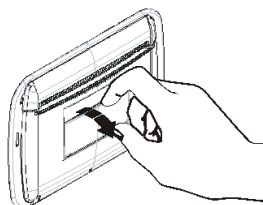

Figure 1
- Open the printer panel as shown on Figure 1;